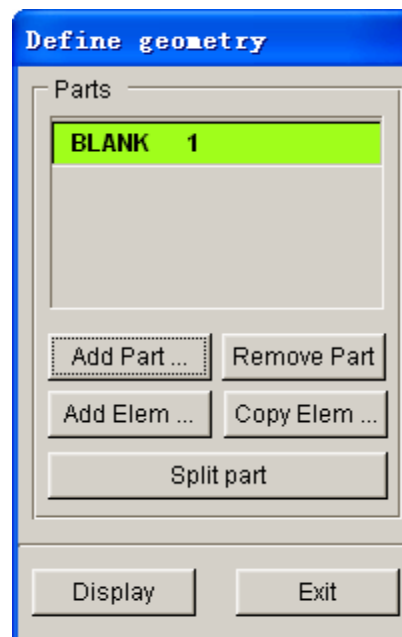

Figure 1.10 Blank geometry list
5. After selecting the part, click on **OK** button to return to DEFINE GEOMETRY dialog box. The **BLANK** part is added to the parts list. See Figure 1.10.